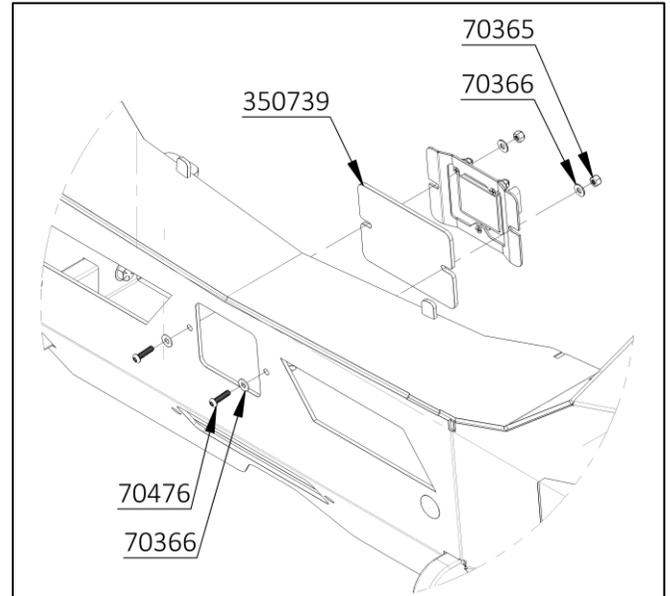

Figure 15: Radar Sensor Install (1/4" Fasteners)
20.  Install the FRONT RADAR SENSOR BRACKET assembly and ACRYLIC SENSOR WINDOW [350739] on to your ALUMINESS FRONT BUMPER using the 1/4-20 X 1 BHCS, washers, and locknuts. **See Figure 15.**